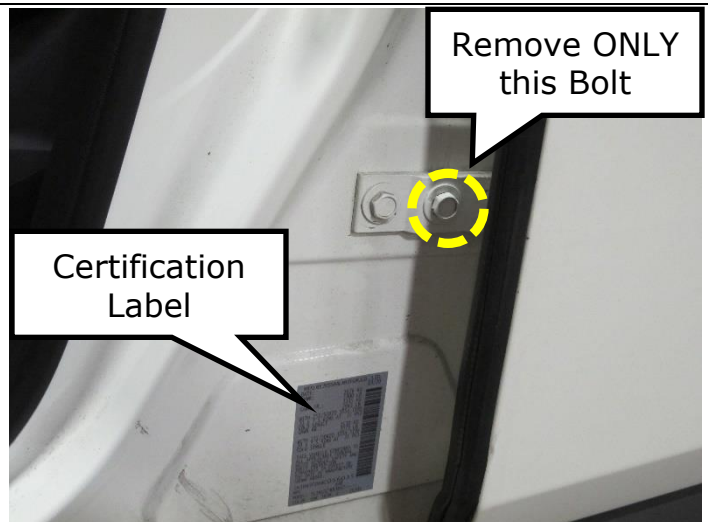

Figure 2
3. Locate rear door lower hinge bolt shown in Figure 2 and remove it.